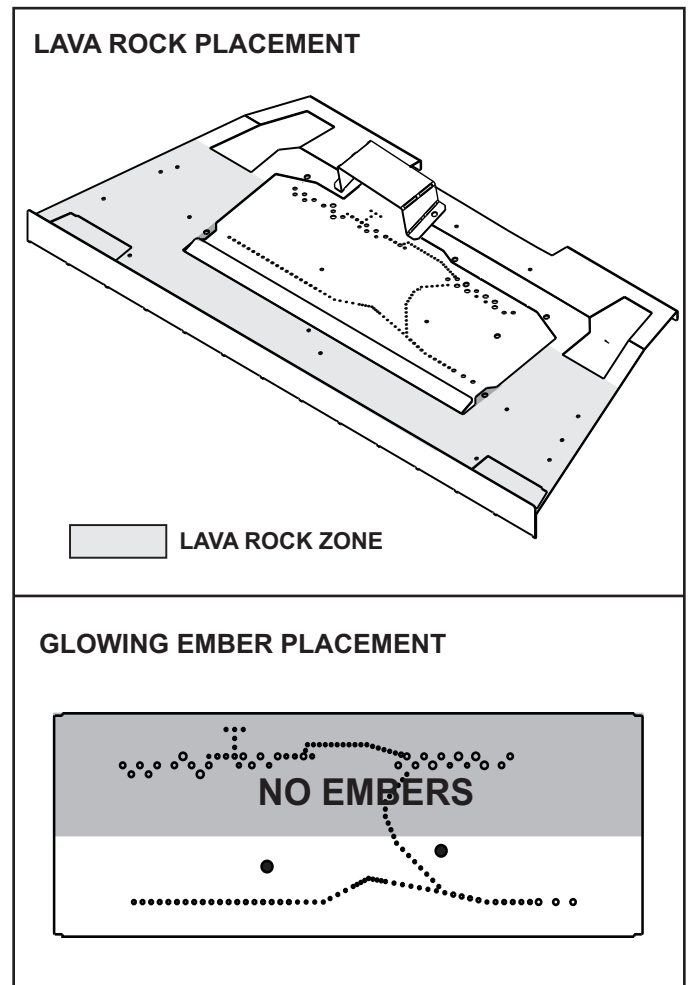

Figure 9.3 Placement of Lava Rock and Embers
- Place lava rock in front of and to the sides of the burner. See Figure 9.3.
- Embers **CANNOT** be placed in the shaded area as shown in Figure 9.3.